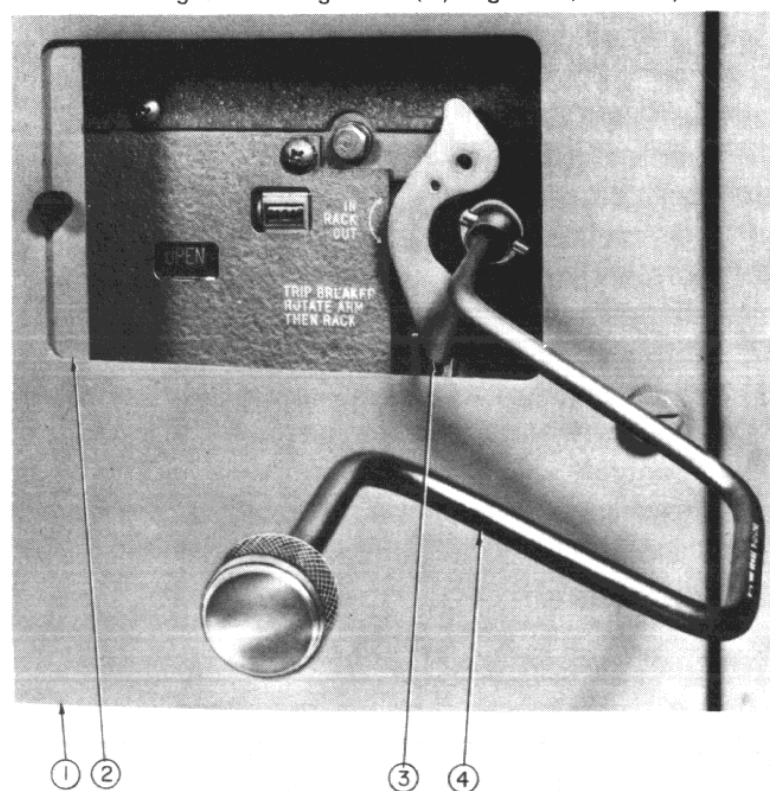

Fig. 3 — Method of Racking Circuit Breaker
2. Engage racking crank (4, Figure 3) and push racking unlocking lever (3) to left, then rotate racking crank counterclockwise only until resistance to motion is felt. (DO NOT FORCE.) (If closing springs were left in charged condition, they will automatically discharge.)
5. To rack circuit breaker to "TEST" position, push racking unlocking lever (3, Figure 3) to left, rotate
FOR SAFETY: When racking circuit breaker to "CONNECTED" position, close compartment door (1, Figure 3) and insert racking crank (4, Figure 3) through sliding panel (2, Figure 3).
(See Figure 3)